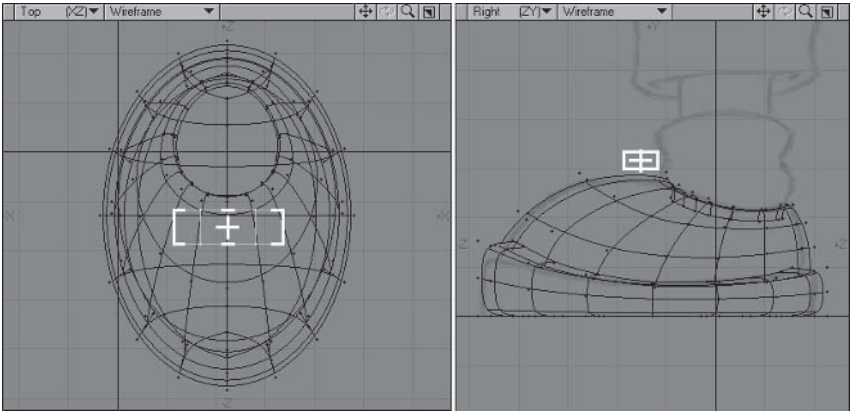

Figure 5.5-11. Initial shoelace.
19. Now we'll create the shoelaces. Select a new layer and place the shoe layer in the background. Create a box with four segments in X that matches Figure 5.5-11.